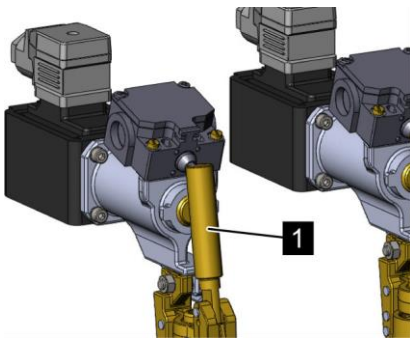

Fig. 160: Throwing over the valve lever
5. ➤ Throw over the valve lever (Fig. 160/1) of a valve on the pilot distributor.